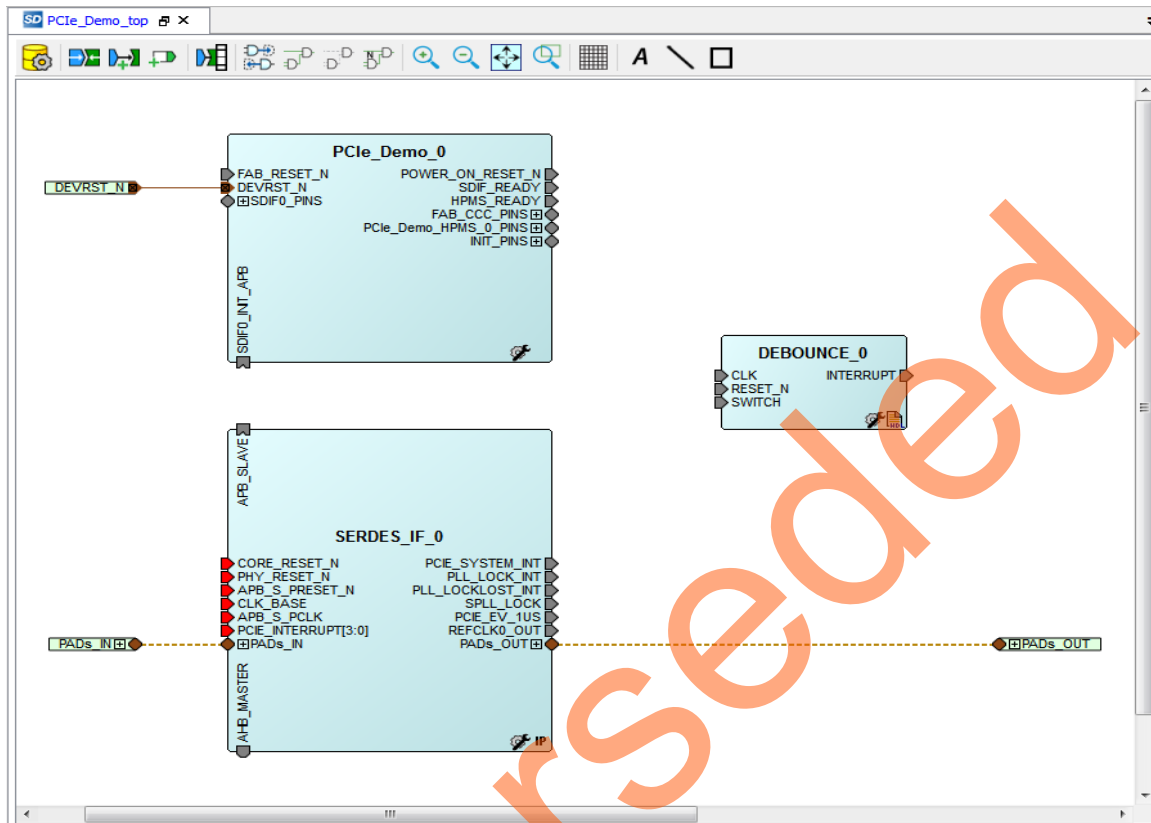

Figure 14 • DEBOUNCE Component in the PCle_Demo_top SmartDesign Canvas
3. Drag the **DEBOUNCE** component from the **Design Hierarchy** into the **PCle_Demo_top** SmartDesign canvas. Figure 14 shows Debounce in **PCle_Demo_top**.